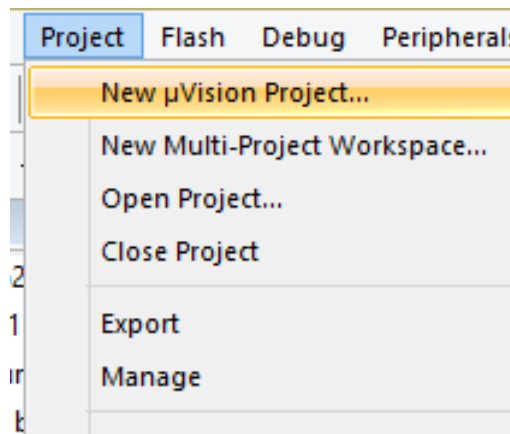

Figure 1
1. When uVision has launched, select Project >> New uVision Project in the main menu bar. If a project already exists, first close the project by selecting Project >> Close Project. Select New uVision Project as shown in Figure 1.